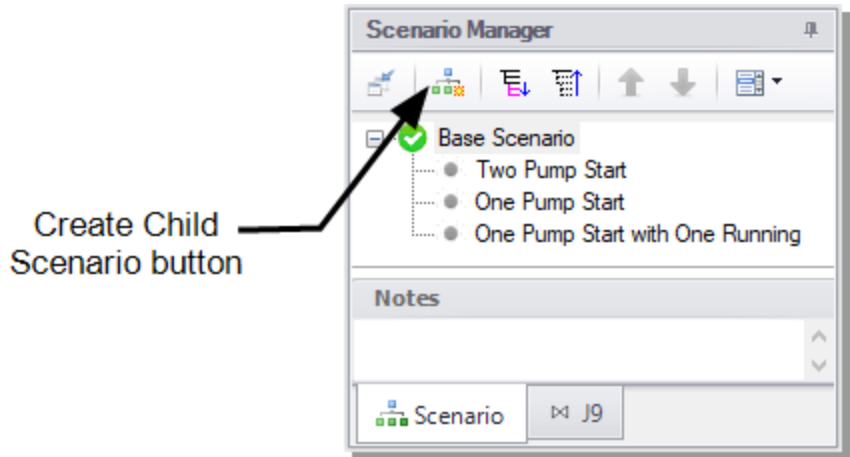

Figure 3.4 Create model variants and keep them organized using the Scenario Manager on the Quick Access Panel
- **Click the “Create Child” button on the Scenario Manager** on the Quick Access Panel. Name the child “Two Pump Start.” A new scenario will appear below the Base Scenario in the scenario tree. Select the Base Scenario, create another child, and call it “One Pump Start.” Finally, select the Base Scenario, and create a third child called “One Pump Start With One Running” (see Figure 3.4). Note that the new child scenario is loaded when it is created using the Scenario Manager on the Quick Access Panel.
Double-click the “One Pump Start” scenario in the scenario tree. This will load the “One Pump Start” scenario onto the Workspace as the current scenario. The currently loaded scenario is displayed in the scenario tree with a green check mark (Figure 3.4).